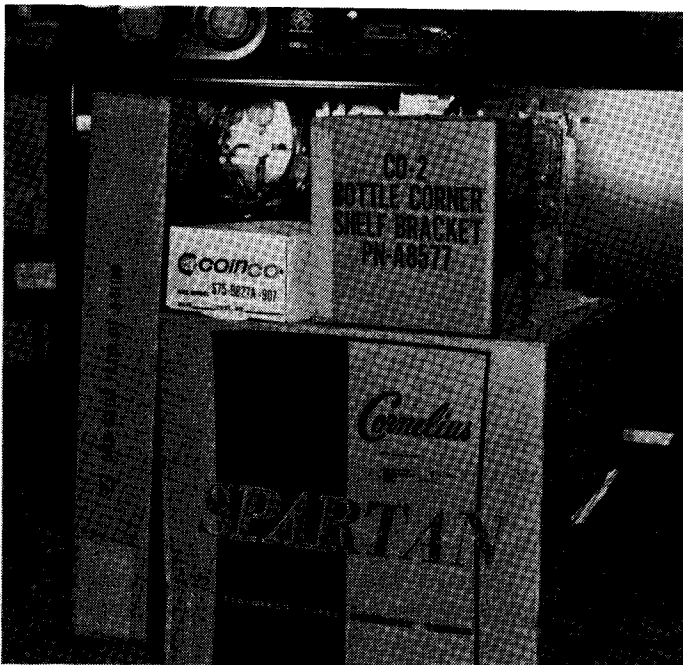

Fig. 1
- Pull the sliding tray out and remove all accessory items in lower compartment. Verify that the tanks, corner shelf bracket, and tank mounted regulator/gauges have been included. (If optional water filter was ordered, it will also be packed in lower compartment). (FIG. 1) The Carbonator is packed in a separate carton but it should arrive at the same time the machine does.